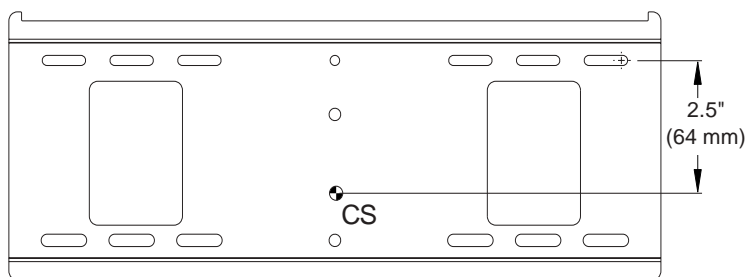
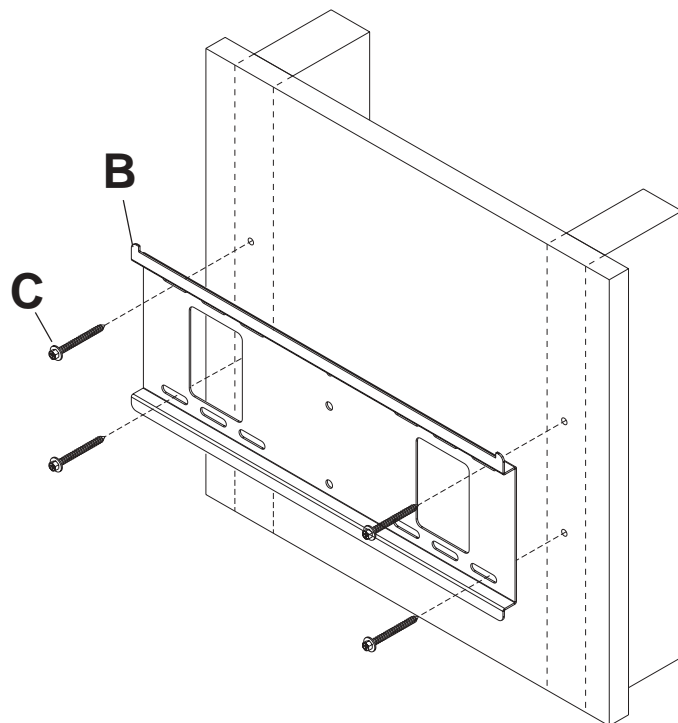

fig. 1.3
fig. 1.4
- 1 Wall plate (**B**) can be mounted to two studs that are 16" apart. Use a stud finder to locate the edges of the studs. Use of an edge-to-edge stud finder is highly recommended. Based on their edges, draw a vertical line down each stud's center. Place wall plate on wall as a template. The top mounting slots should be 2.5" above the desired screen center as shown in figure 1.3. Level plate, and mark the center of the four mounting holes. Make sure that the mounting holes are on the stud centerlines. Drill four 5/32" (4 mm) dia. holes 2-1/2" (64 mm) deep. Make sure that the wall plate is level, secure it using four #14 x 2.5" wood screws (**C**) as shown in figure 1.4.